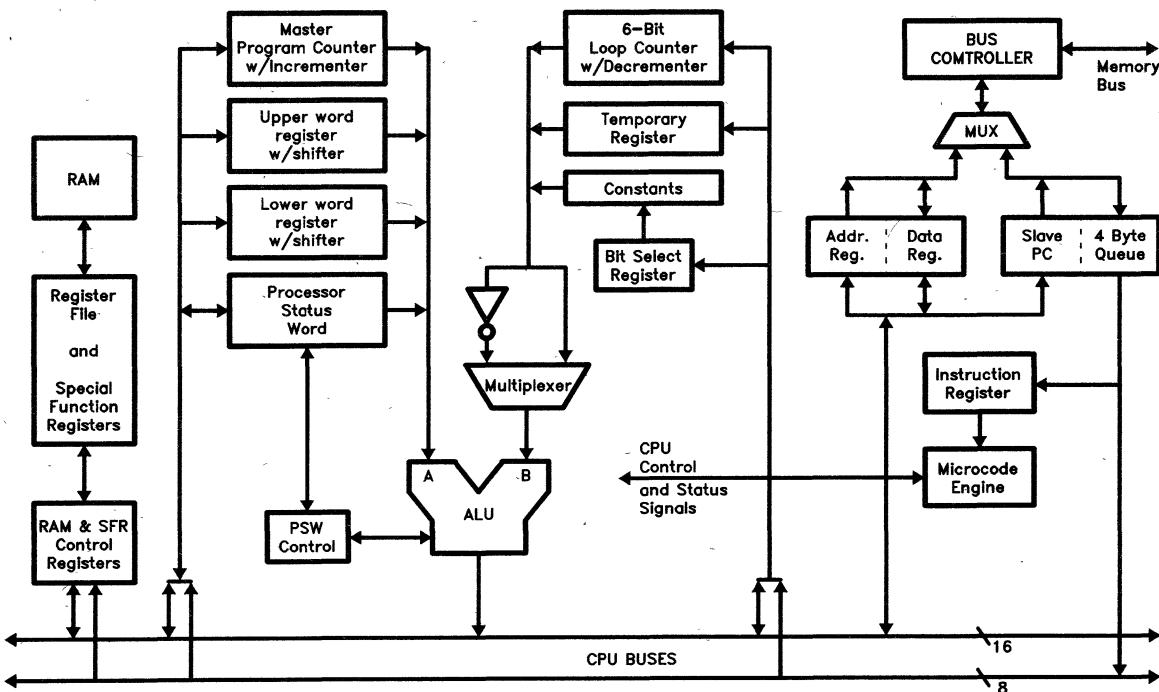

Figure 1-2. RALU and Memory Controller Block Diagram
A microcode engine controls the CPU, allowing it to perform operations with any byte, word or double word in the 256 byte register space. By using the VWindowing scheme discussed in Section 3-3, the additional 256 bytes of RAM can also be used as registers. Instructions to the CPU are taken from the queue and stored temporarily in the instruction register. The microcode engine decodes the instructions and generates the correct sequence of events to have the RALU perform the desired function. Figure 1-2 shows the memory controller, RALU, instruction register and the control unit.
Most calculations performed by the 80C196KC take place in the RALU. The RALU, shown in Figure 1-2, contains a 17-bit ALU, the Program Status Word (PSW), the Program Counter (PC), a loop counter, and three temporary registers. All of the registers are 16-bits or 17-bits (16+ sign extension) wide. Some of the registers have the ability to perform simple operations to off-load the ALU.